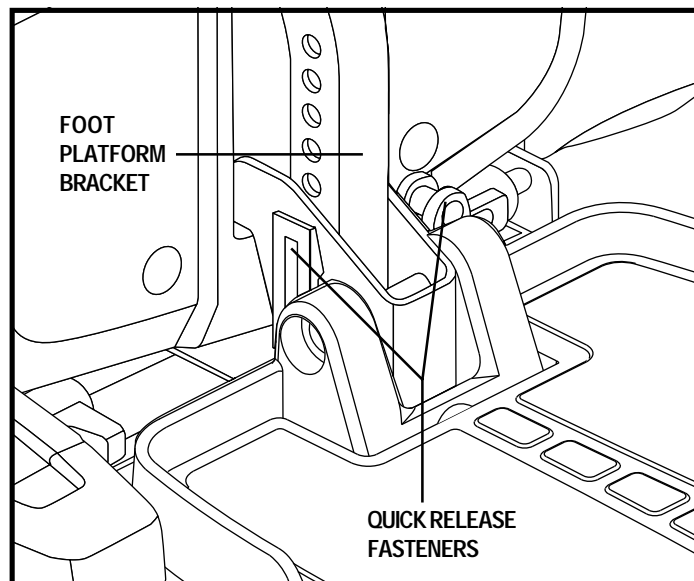
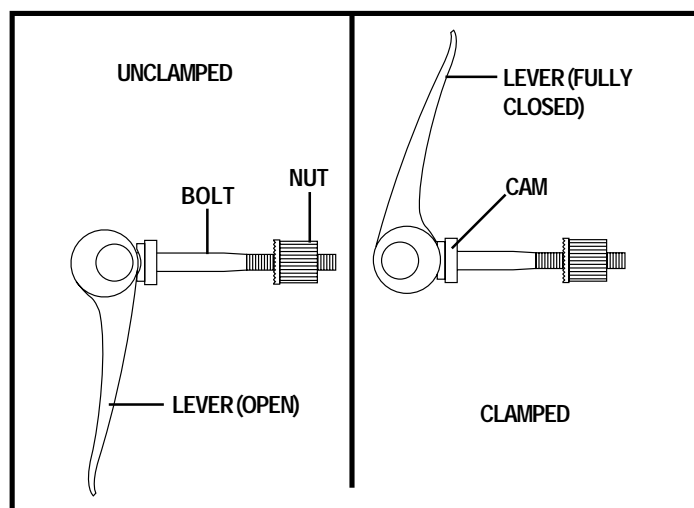

Figure 21. Foot Platform Adjustment
Figure 22. Quick Release Fastener Operation
1. Remove the quick release fasteners from the foot platform bracket. See figure 21.
**Quick Release Fasteners:** The foot platform is attached to the power base with two quick release fasteners. See figure 21. Each quick release fastener consists of a bolt, a lever and a nut. See figure 22. The lever has a cam on the end that allows it to clamp into place. The quick release fastener has two states: clamped and unclamped. When the lever is open, the quick release fastener is unclamped. When the lever is closed, the quick release fastener is clamped.